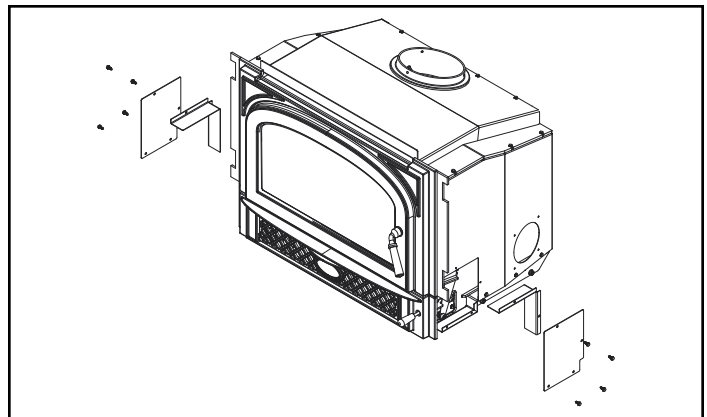

Figure 18.2
2. Remove screws holding outer covers in place. Place outside air plates in channel as shown (outside air plates are located in component pack). Re-install outer covers, Figure 18.2.